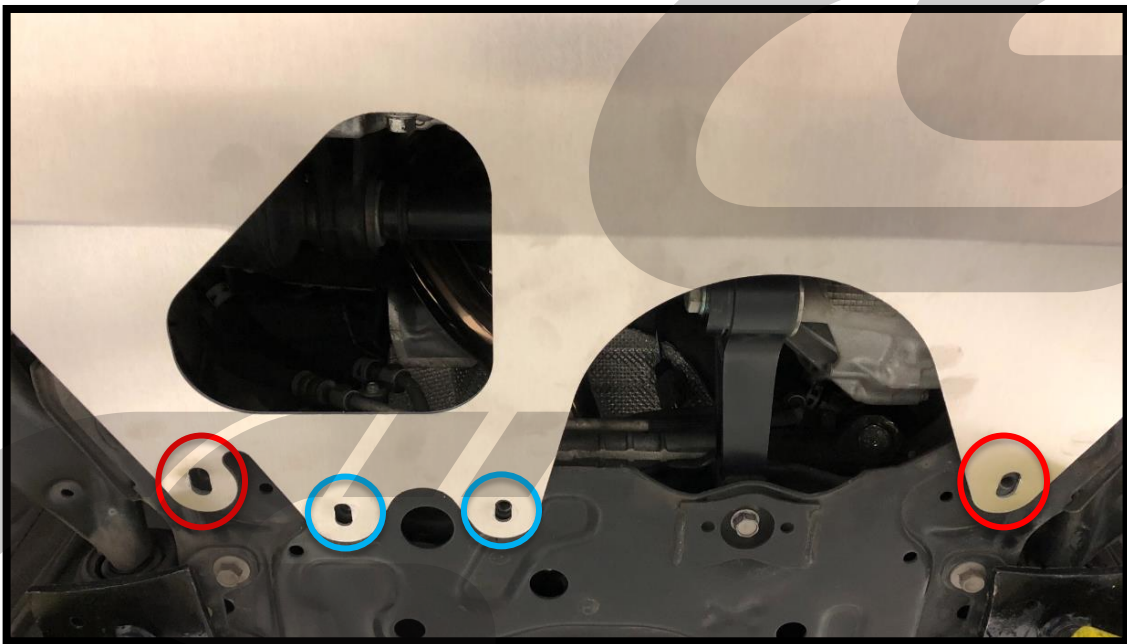

Figure 2g
- g) Using the supplied M12 bolts and washers, loosely attach the rear of the CorkSport Skid Plate to the threaded holes in the chassis. These M12 bolts fit into the two outer slots shown with red circles in **Figure 2g**.
- h) Using the supplied M10 bolts and washers, loosely attach the rear of the CorkSport Skid Plate to the threaded holes in the chassis. These M10 bolts fit into the two inner slots shown with blue circles in **Figure 2g**.